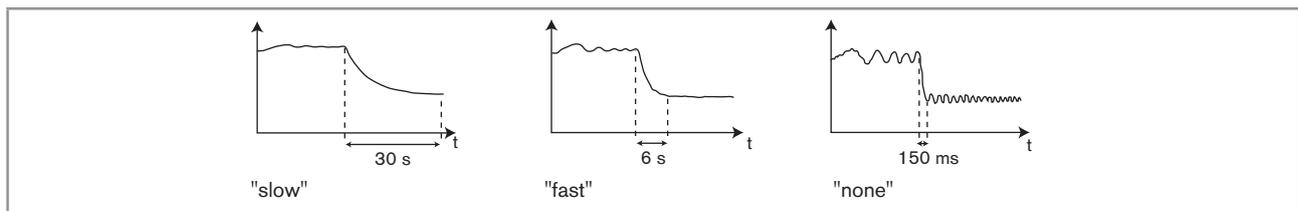

Fig. 36 Filter curves
**FILTER:** choose the filter level for the measurement values displayed on the line selected. Three filter levels are proposed: "slow", "fast" or "none". Fig. 36 shows the 3 filter curves.
**FILTER:** choose the level of damping for the fluctuations of the current value for each current output. Three damping levels are proposed: "slow", "fast" or "none". The damping for the current outputs is similar to the damping of the display. See Fig. 36.